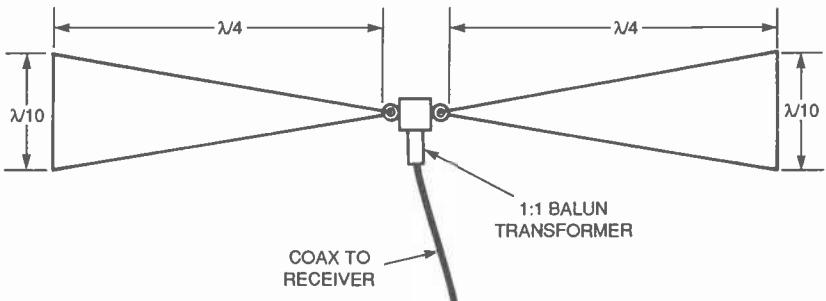

Fig. 5. The "Fan" dipole (also known as the "Bow Tie" dipole) is a variation of the folded-dipole theme.
**Installation.** Before you begin installing the Unlock-Too, roll down a window to prevent locking yourself out of your vehicle. Also, keep in mind that all vehicles are different and we can't include make- and model-specific installation details. However, a generic connection diagram is shown in Fig. 5. If you don't feel comfortable with your vehicle's electrical system, you might want to ask an automotive technician for help.
A variation on the theme is the fan dipole in Fig. 5. The elements of the fan dipole are made of two conductors that are spread apart enough to be about one-tenth wavelength ( $\lambda/10$ ) at the ends. The bandwidth of the fan dipole is a bit greater than regular dipoles, even though it is a little harder to build. Like other dipoles, the elements are each a quarter wavelength ( $\lambda/4$ ), for an overall length of a half wavelength ( $\lambda/2$ ). The fan dipole can be fed directly with 75-ohm coaxial cable, or through a 1:1 BALUN transformer if one is available for the frequency that you select.